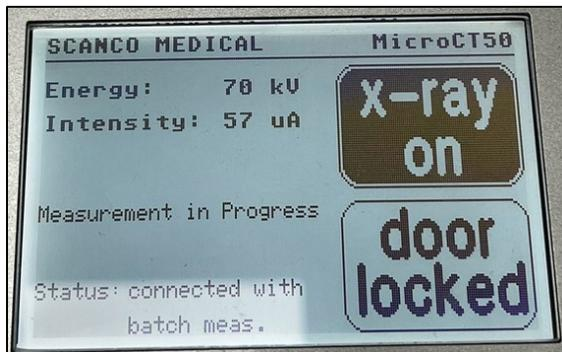

Figure 5: Image of microCT 50 status screen while a scan is in progress.
2. **Before loading any new samples, check if the microCT door is open.** The digital screen on the microCT will say “READY TO SCAN” if the machine is ready. Otherwise, it will appear identical to Figure 5, indicating a scan is in progress, and the door is locked. Please ensure the time you have reserved is correct. **Do NOT use the key to unlock/lock the door!**